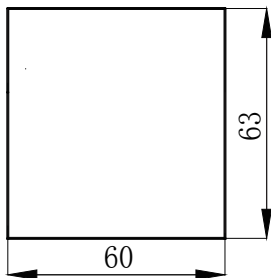

Figure 17
- Refer to "Figure 17" for the installation opening of the touch switch.
- Then place the touch switch in the hole as shown in "Figure 17", and slowly press the screen board until the double-sided adhesive tape is firmly bonded with the fixed surface.